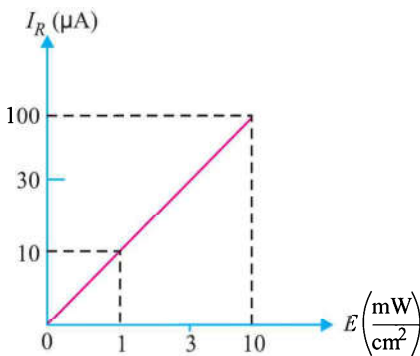

Fig. 7.12
(i) **Reverse current-Illumination curve.** Fig. 7.12 shows the graph between reverse current (I_R) and illumination (E) of a photo-diode. The reverse current is shown on the vertical axis and is measured in μA . The illumination is indicated on the horizontal axis and is measured in mW/cm^2 . Note that graph is a straight line passing through the origin.